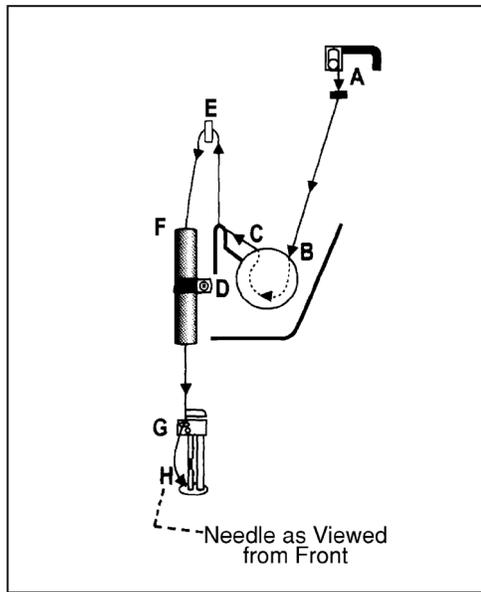

FIG. 1
2. Thread by following the letters indicated in Figure 1.
Note: Ensure thread is bottomed in the tension disc (B and C in Figure 1). This is extremely important! Thread needle from left to right or from the outside to the inside of the machine.